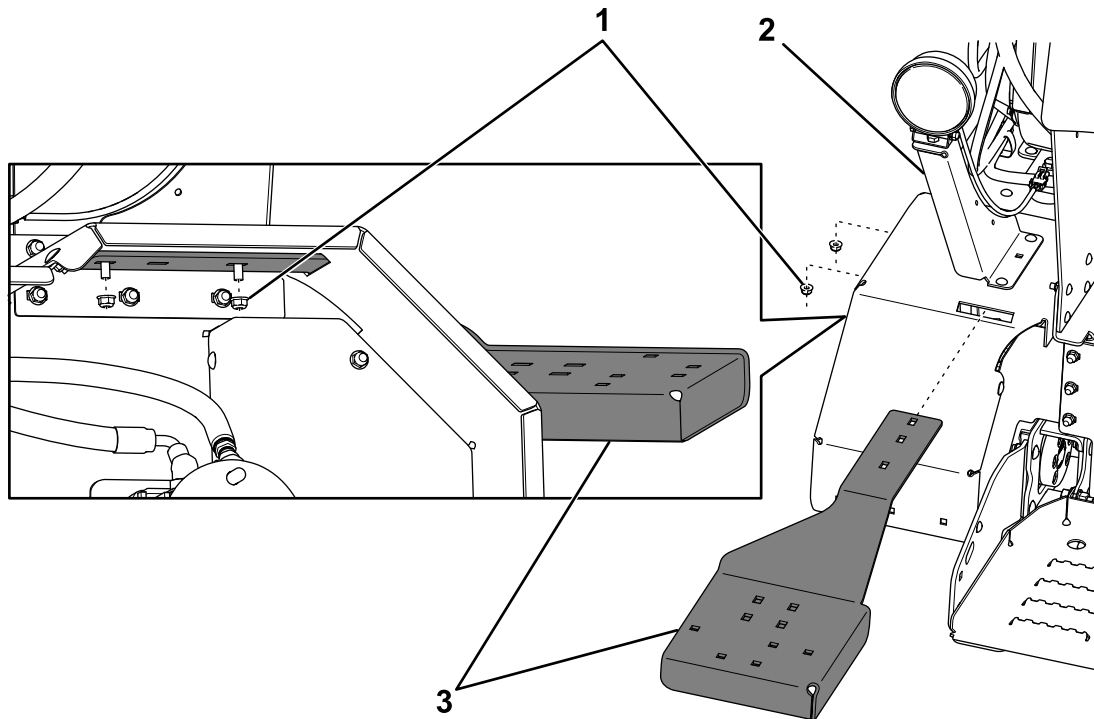

Figure 2
4. Remove the nuts securing the rear light bracket to the machine (Figure 2).
using the fasteners for the rear light bracket (Figure 2).